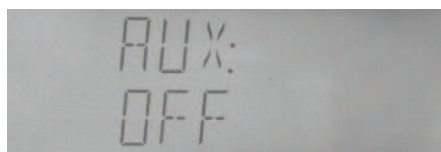

Figure 4-21 Limit list setup page
- Select "AUX" item through 【◀】 or 【▶】 key at limit setup page, as shown in Figure4-21.